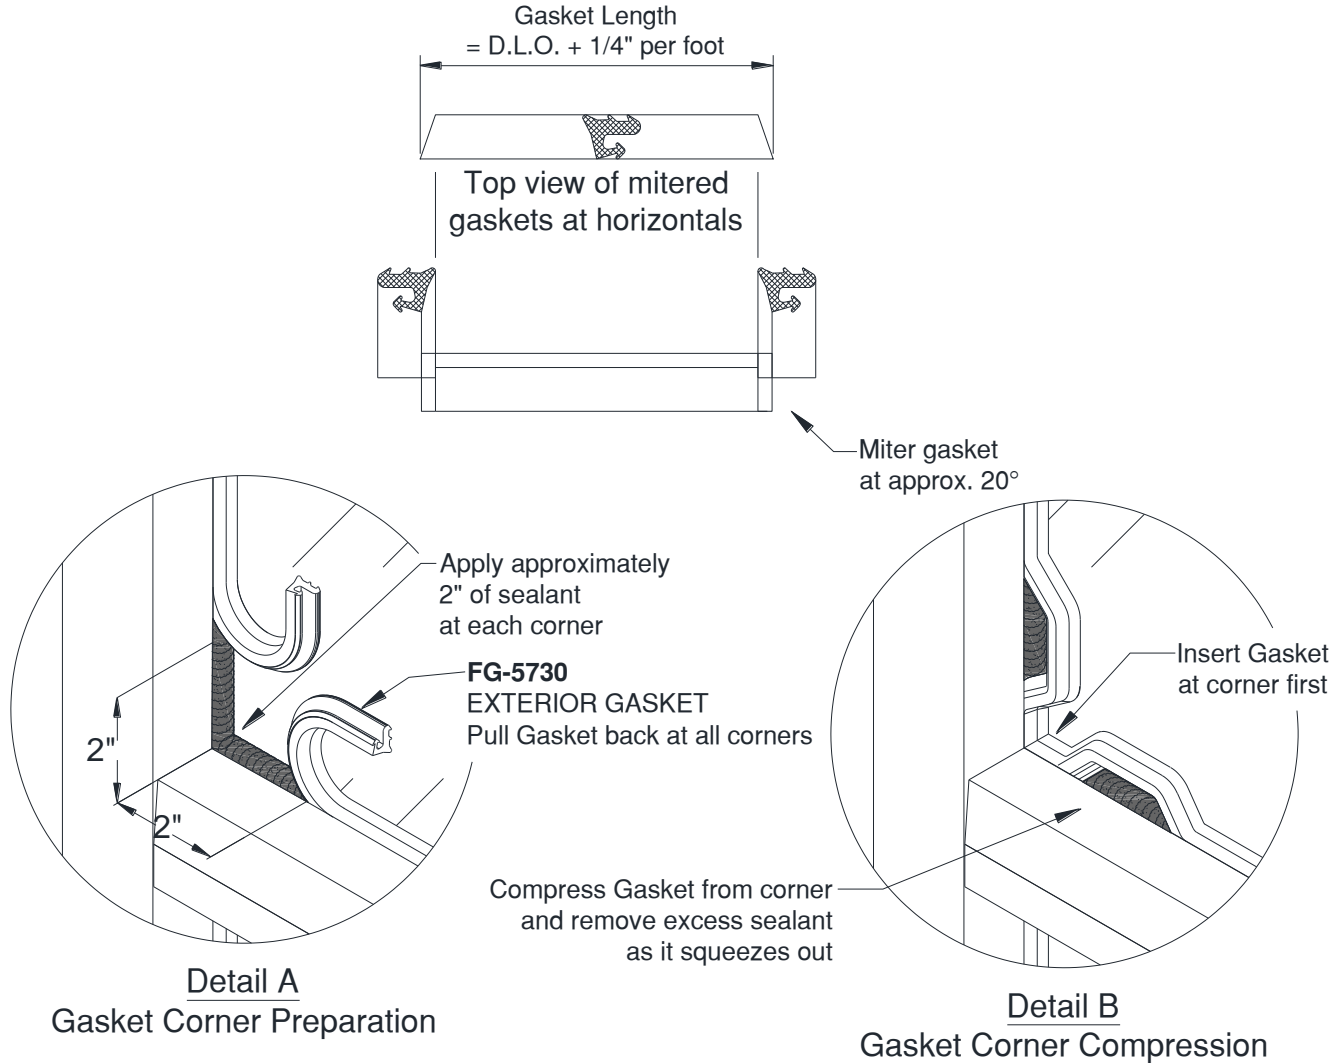

Figure 26: Exterior Gasket Installation
- 16.2.6 After gaskets are pressed into place, pull gasket from pocket at corners as shown in *Figure 26, Detail B*. Clean glass and gaskets a minimum of 2" from each end with isopropyl alcohol.
- 16.2.7 Apply sealant and push Gasket into reglet, compressing from the corner first, *Figure 26, Detail C*. Clean squeeze out immediately.